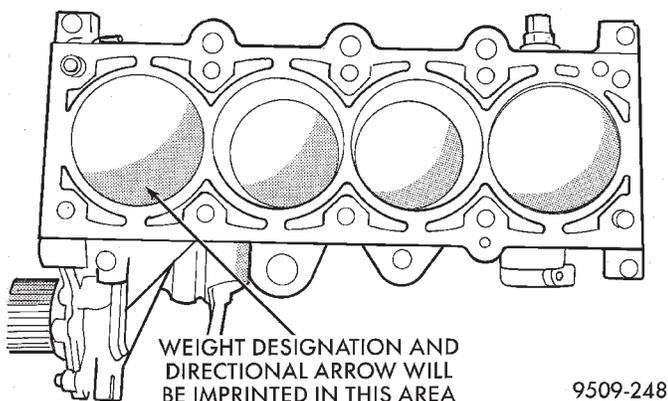

Fig. 75 Piston Markings
(1) Remove top ridge of cylinder bores with a reliable ridge reamer before removing pistons from cylinder block. **Be sure to keep tops of pistons covered during this operation.** Mark piston with matching cylinder number (Fig. 75).
(3) Pistons will have a stamping in the approximate location shown in (Fig. 75). These stamps will be either a directional arrow or a weight identification for the assembly. L is for light and H is for heavy. These assemblies should all be the same weight class. Service piston assemblies are marked with a S and can be used with either L or H production assemblies. The weight designation stamps should face toward the timing belt side of the engine.
(4) Pistons and connecting rods must be removed from top of cylinder block. Rotate crankshaft so that each connecting rod is centered in cylinder bore.
(5) Remove connecting rod cap bolts **Do not use old bolts if reinstalling connecting rod.** Push each piston and rod assembly out of cylinder bore.
(4) The weight stamp designation L or H will be in the front half of the piston should face toward the front of the engine for SOHC engine. The arrow should face toward the front of the engine for DOHC engine (Fig. 75).
(5) Rotate crankshaft so that the connecting rod journal is on the center of the cylinder bore. Insert